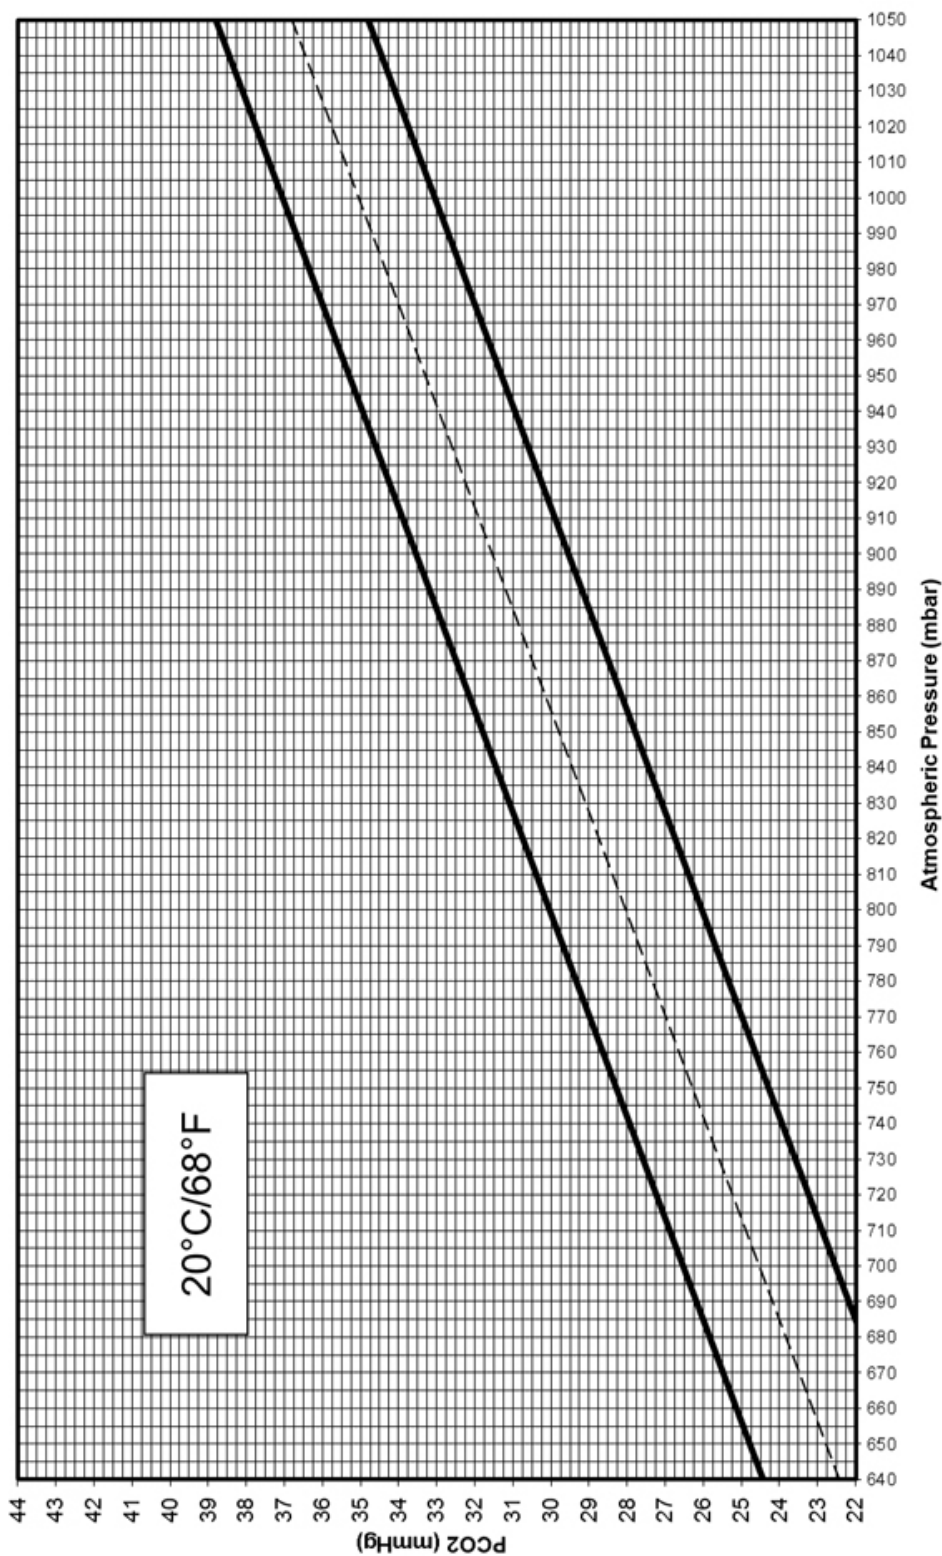

Fig. 190 Acceptable Range for PCO2 at Atmospheric Pressure (17.5 to 22.5 °C)
- Ambient temperature 20 °C (17.5 to 22.5 °C): Fig 190